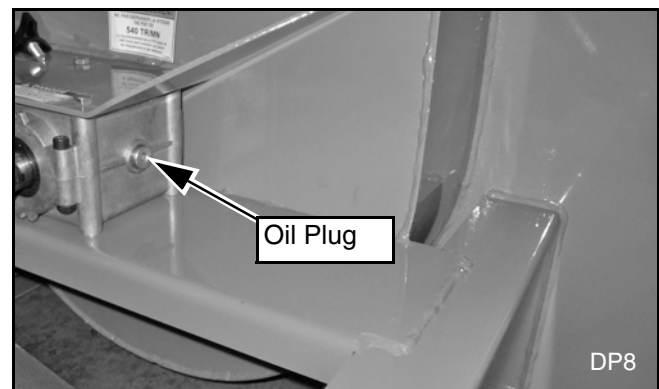

Figure 12. Gearbox Oil
To change the oil, follow this procedure, Figure 12:
5. Remove plug from gearbox and add .52 quart of SAE80W-90 gear oil, Figure 12.